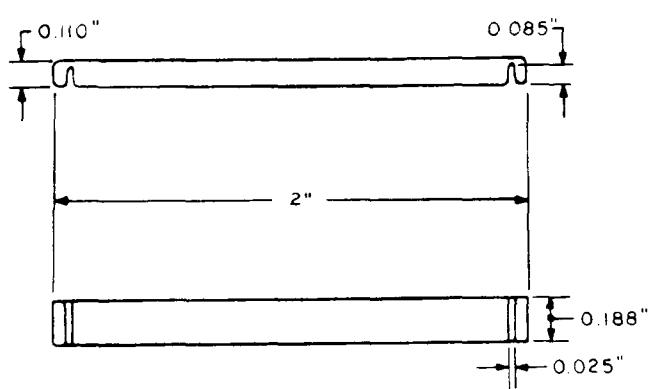

Fig. 4—625A Spring Adjuster Tool
2.05 625A: The 625A tool (Fig. 4) is a spring adjuster used in adjusting the off-normal springs on the 214A selector of the one-type translator.